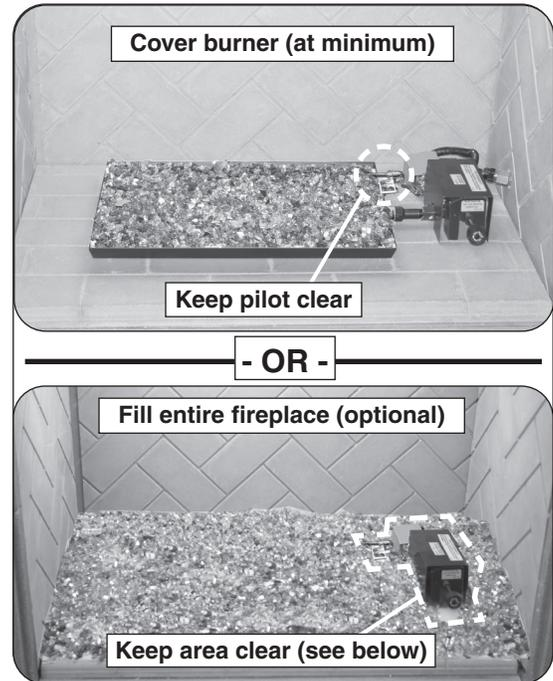

Fig. 22-1 Glass media placement
1. After the required sand/vermiculite has been placed, pour the glass media (glass, gems) so that the burner pan is filled completely and evenly (see Fig. 22-1).
- DO NOT place any glass media directly on the pilot assembly, on or within the heatshield(s), or under a knob if one exists at the front of the valve (see Fig. 22-1 and Fig. 22-3).
2. Complete placement by pouring the remaining glass media on the floor of the fireplace, around the front, rear, and sides of the burner system (see Fig. 22-1).